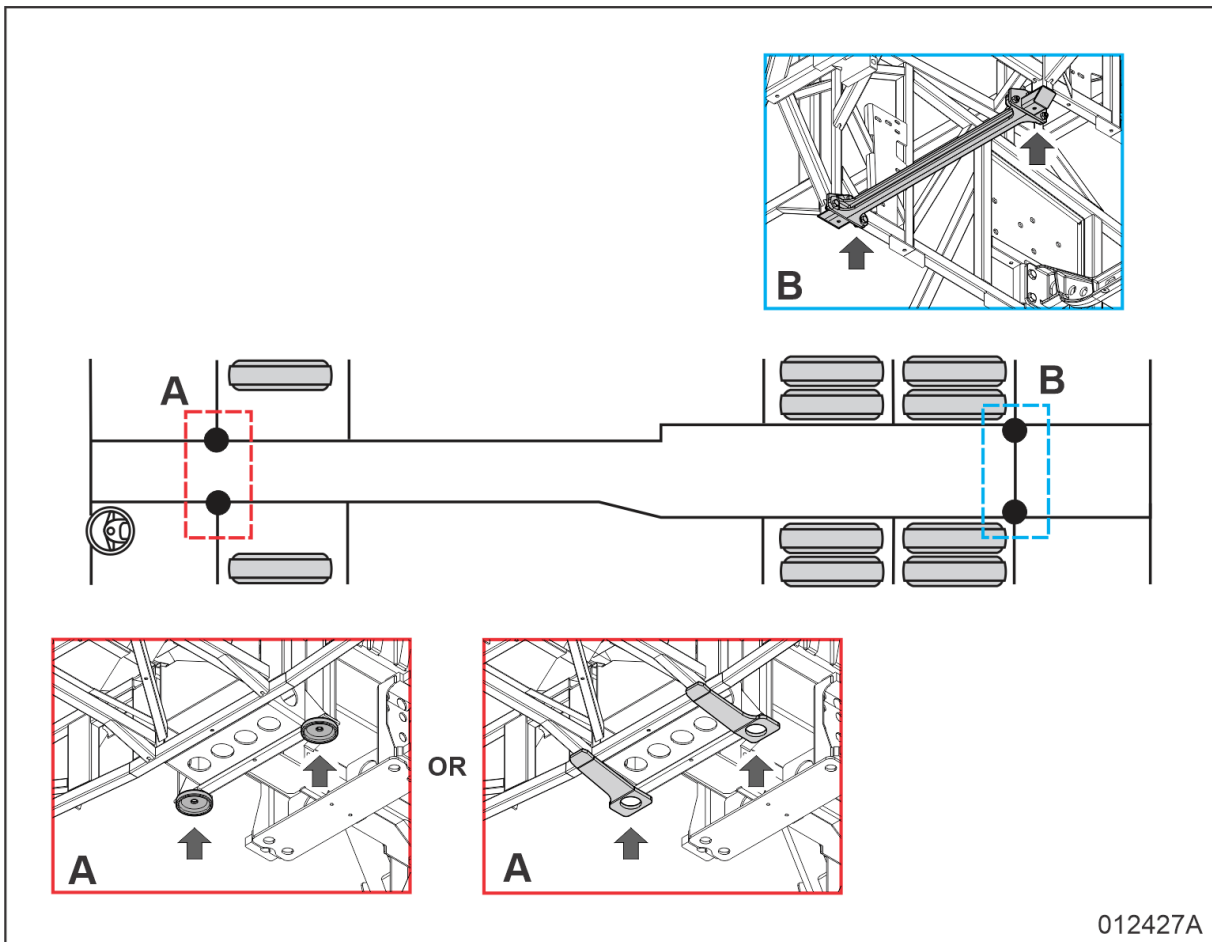

Figure 1: Chassis-frame jacking points on TD925 10-wheeler
TO LIFT UNDER CHASSIS FRAME – Figure 1
- If the vehicle has to be raised by means of jacks under the chassis frame, position the jacking ram under the points indicated in figure 1 only.
- Equally, when placing the vehicle on jack stands (e.g. when column lifts have been used to raise the vehicle), position the jack stands under the points mentioned in figure 1 only.